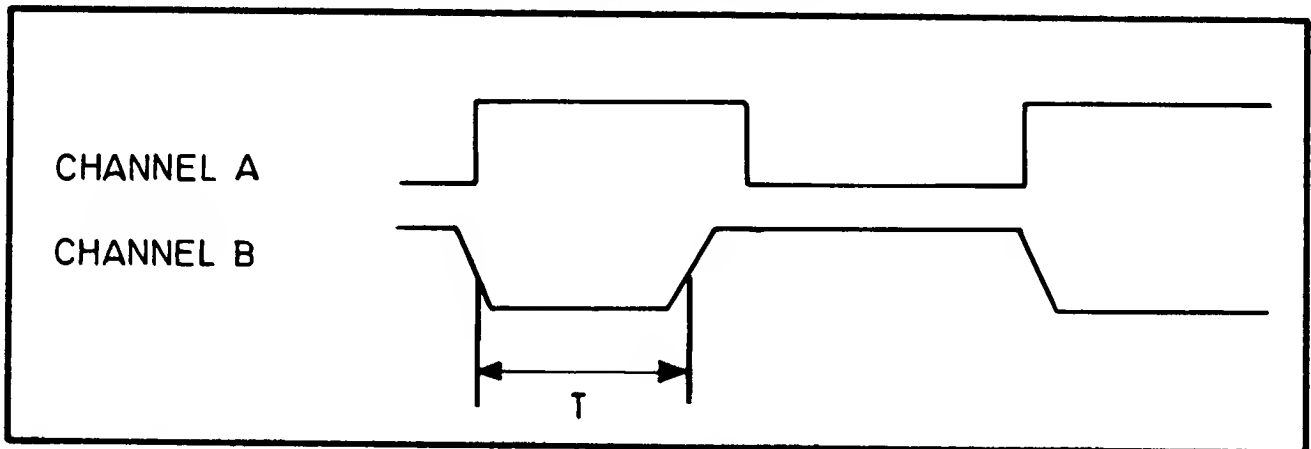

Fig. 7.13 Timing Adjustment Waveforms
7.7.4.3.3 Switch on the 9087 and adjust the oscilloscope to obtain a display similar to Fig. 7.13. Adjust R11 until pulse width T is $370 \text{ ns} \pm 20 \text{ ns}$.